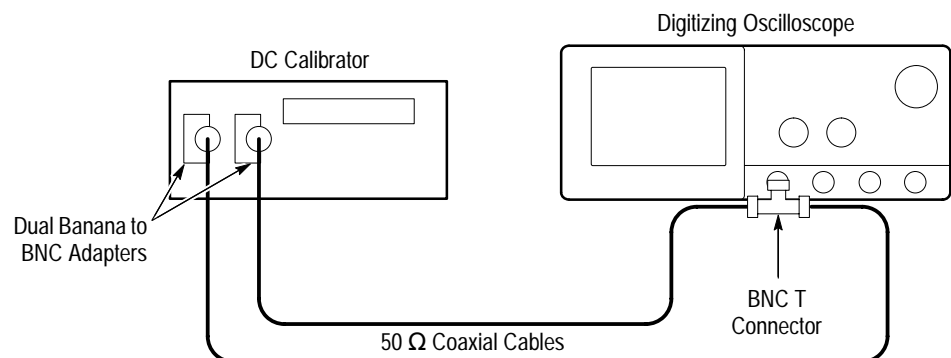

Figure 1–23: Subsequent Test Hookup
- Connect the output of a DC calibration generator through a dual-banana connector followed by a 50  $\Omega$  precision coaxial cable to one side of a BNC T connector. See Figure 1–23.
- Connect the Sense output of the generator through a second dual-banana connector followed by a 50  $\Omega$  precision coaxial cable to the other side of the BNC T connector. Now connect the BNC T connector to **CH 1**. See Figure 1–23.